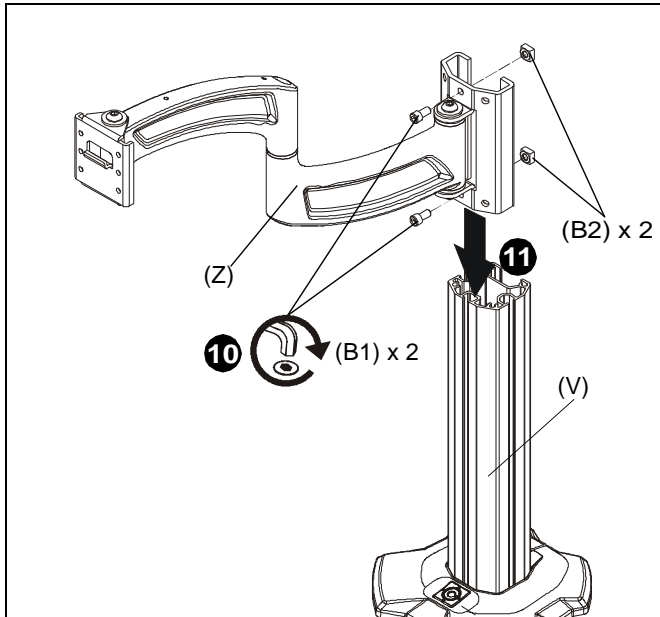

Figure 5
- 10. Loosely install two 1/4-20 x 1/2" socket head carriage screws (B1) through mounting holes on column arm (Z) bracket and into 1/4" square nuts (B2). (See Figure 5)
- 11. Slide column arm (Z) bracket into column (V) until desired mounting height is reached. (See Figure 5)